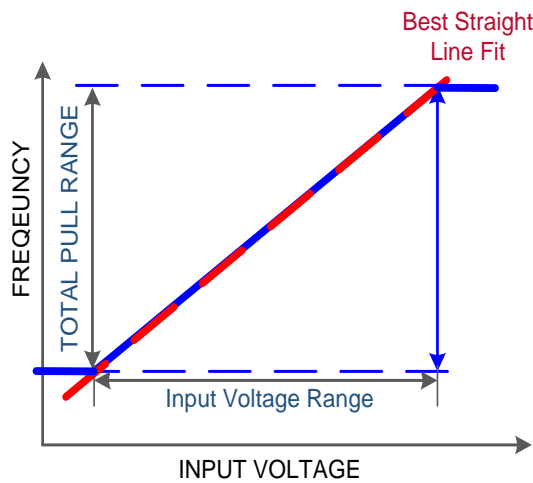

Figure 35. Typical SiTime VCTCXO Linearity
In any VCTCXO, there will be some deviation of the frequency-voltage (FV) characteristic from an ideal straight line. Linearity is the ratio of this maximum deviation to the total pull range, expressed as a percentage. **Figure 35** below shows the typical pull linearity of a SiTime VCTCXO. The linearity is excellent (1% maximum) relative to most quartz offerings because the frequency pulling is achieved with a PLL rather than varactor diodes.